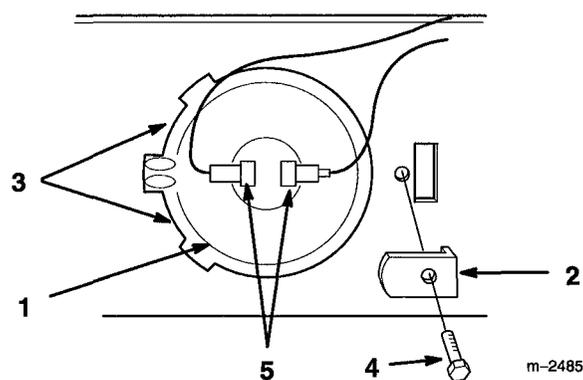

Figure 38
3. Remove screw securing retainer bracket (Fig. 38).
4. Lift and twist bulb out of pocket (Fig. 38).
1. Locate index boss horizontal and twist bulb under tabs on left side of pocket (Fig. 38).
2. Hold bulb in socket with retainer bracket and secure with screw (Fig. 38).
3. Push wire connectors onto bulb terminals (Fig. 38).